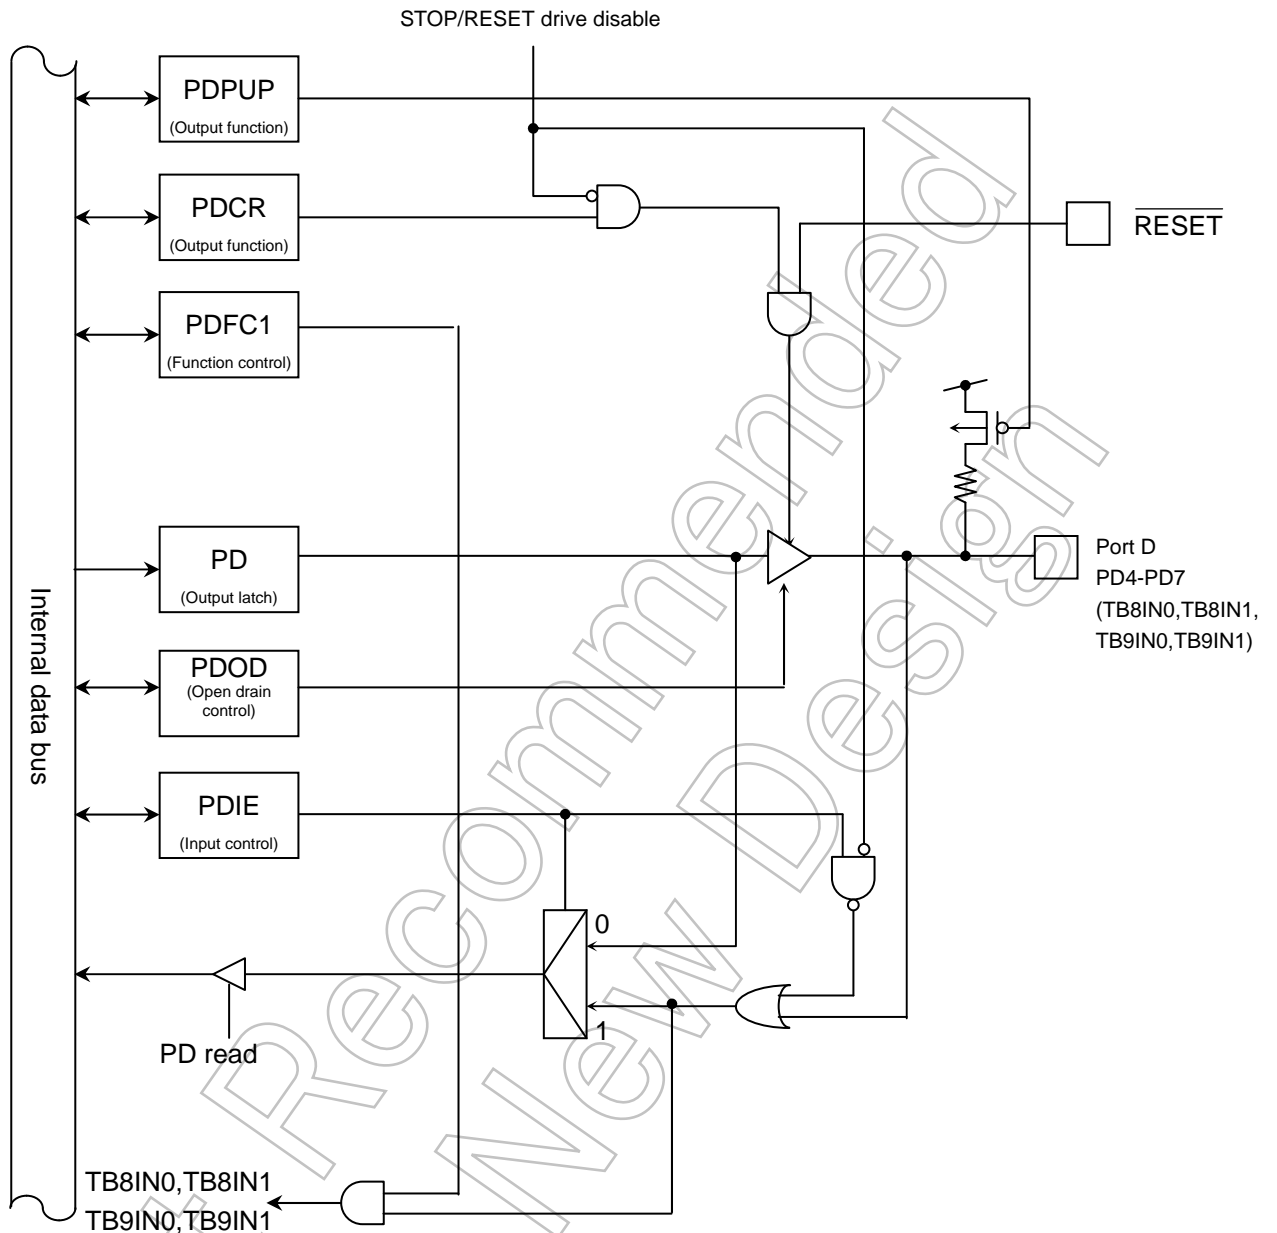

Fig. 7-42 Port D (PD4-PD7)
*Fig. 7-42 does not illustrate debug function.